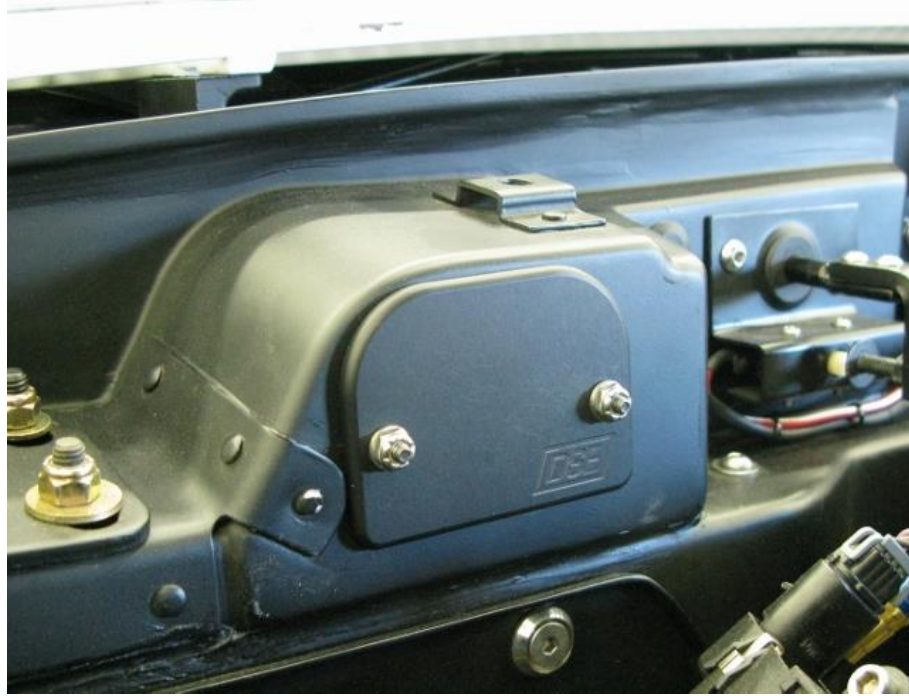

Figure 37 – Wiper Door Closeout
51. Install the wiper door closeout over the factory vacuum booster location with 2 of the remaining 10-24 Nylock flange nuts provided in the hardware kit and tighten (Figure 37).